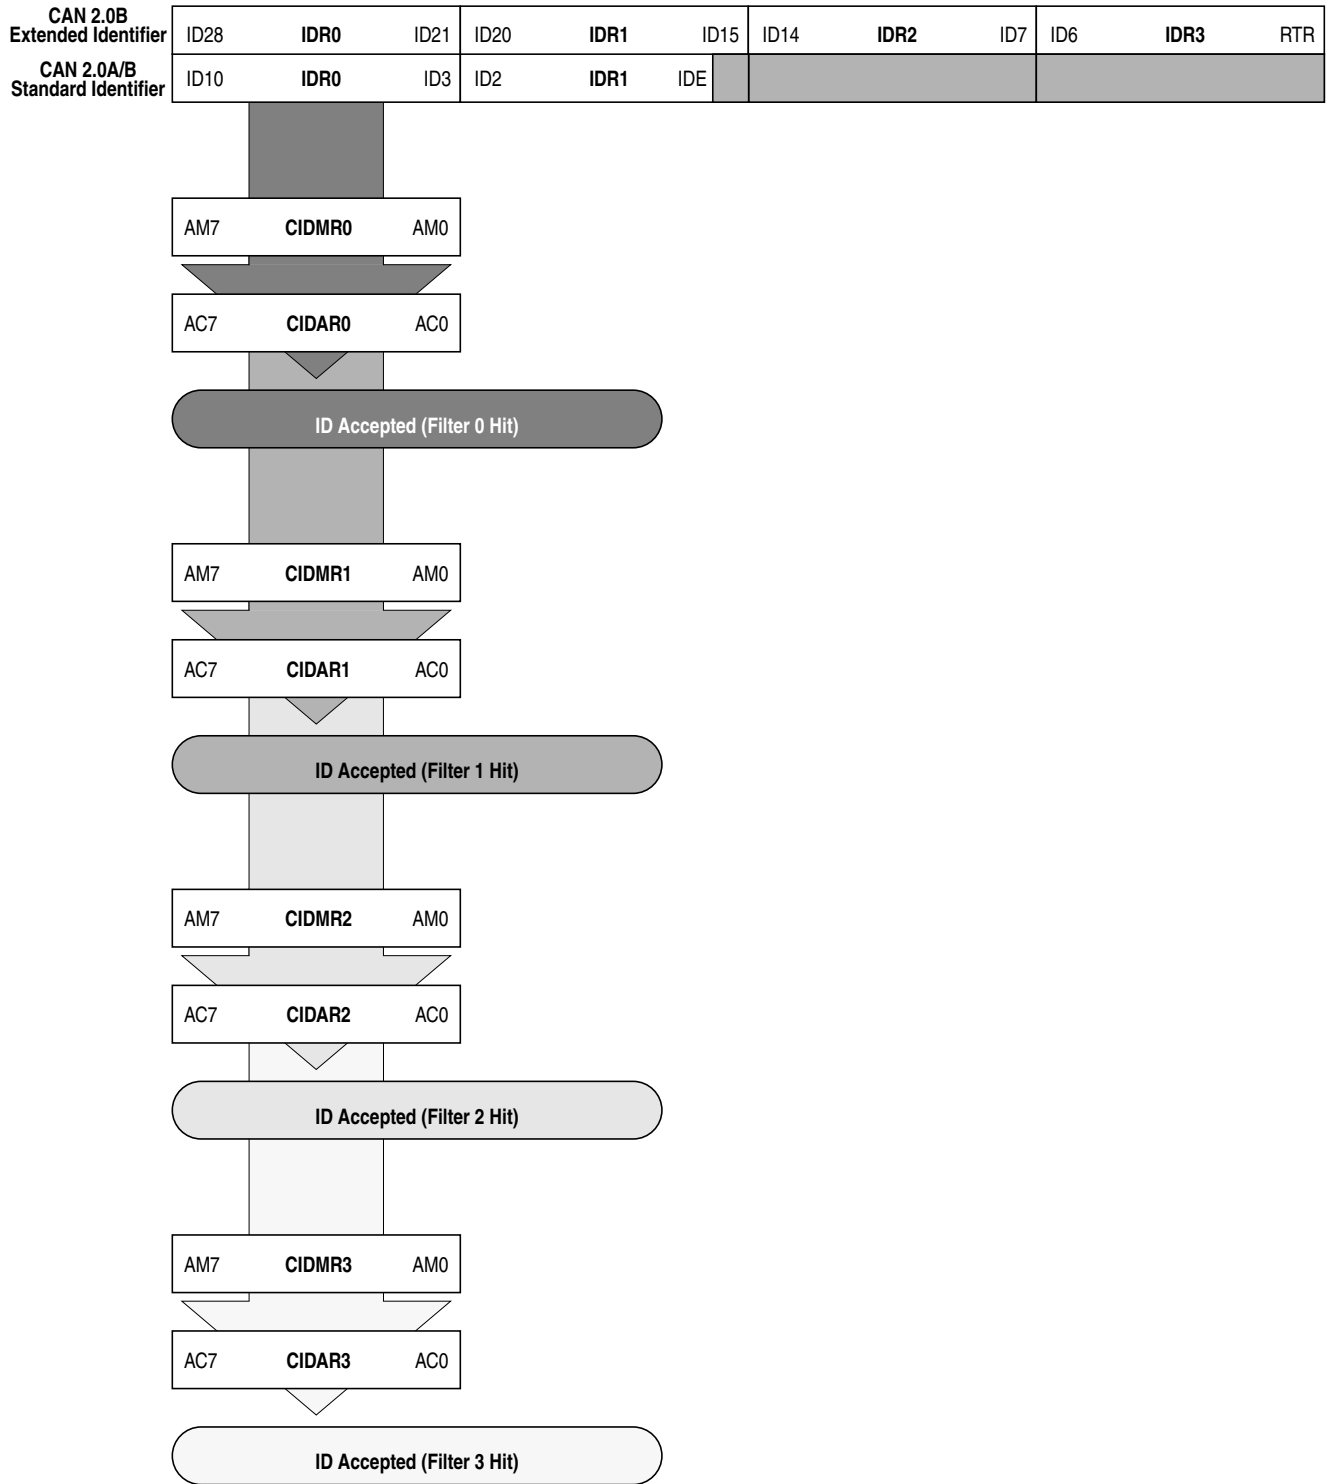

Figure 12-39. 8-bit Maskable Identifier Acceptance Filters
- Eight identifier acceptance filters, each to be applied to the first 8 bits of the identifier. This mode implements eight independent filters for the first 8 bits of a CAN 2.0A/B compliant standard identifier or a CAN 2.0B compliant extended identifier. Figure 12-39 shows how the first 32-bit filter bank (CANIDAR0–CANIDAR3, CANIDMR0–CANIDMR3) produces filter 0 to 3 hits. Similarly, the second filter bank (CANIDAR4–CANIDAR7, CANIDMR4–CANIDMR7) produces filter 4 to 7 hits.